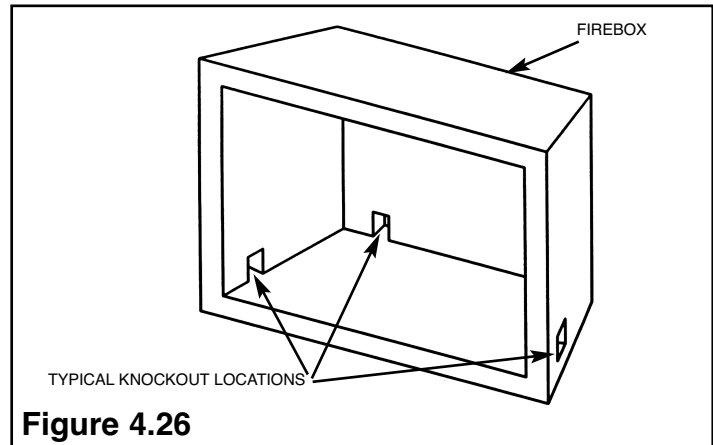

Figure 4.26
- **Connections may be made through the back, left or right sides as appropriate.** Knockouts are normally provided for this purpose. Consult the manufacture's installation instructions for knockout locations and any specific instructions. See Figure 4.26.